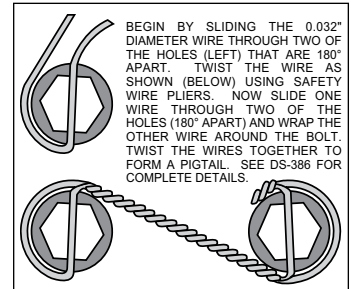

Figure 3. Safety Wire Diagram
- Orient the rotor (3) and the hat (4) as shown in Figure 1 and Photo 3. Attach rotor to hat using bolts (6) and washers (5). Apply red *Loctite*® 271 to the bolt threads and torque to 140 in-lb using a criss-cross pattern. For an added measure of security, the bolts may be safety wired using standard 0.032 inch diameter stainless steel safety wire as shown in Figure 3. Please refer to Wilwood's data sheet DS-386 (available at www.wilwood.com/Pdf/DataSheets/ds386.pdf) for complete safety wire installation instructions.